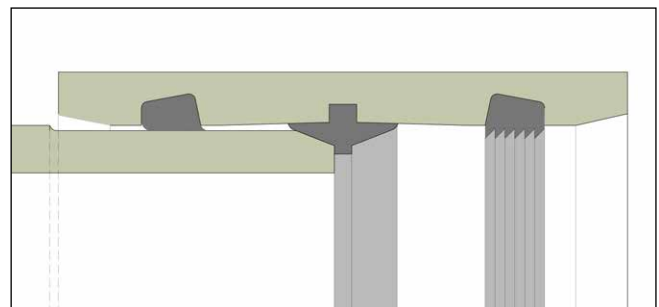

Fig. 24: FPCA coupling
5.1.3. PRESSURE COUPLING ANGULAR / FPC-A (FIG. 24)